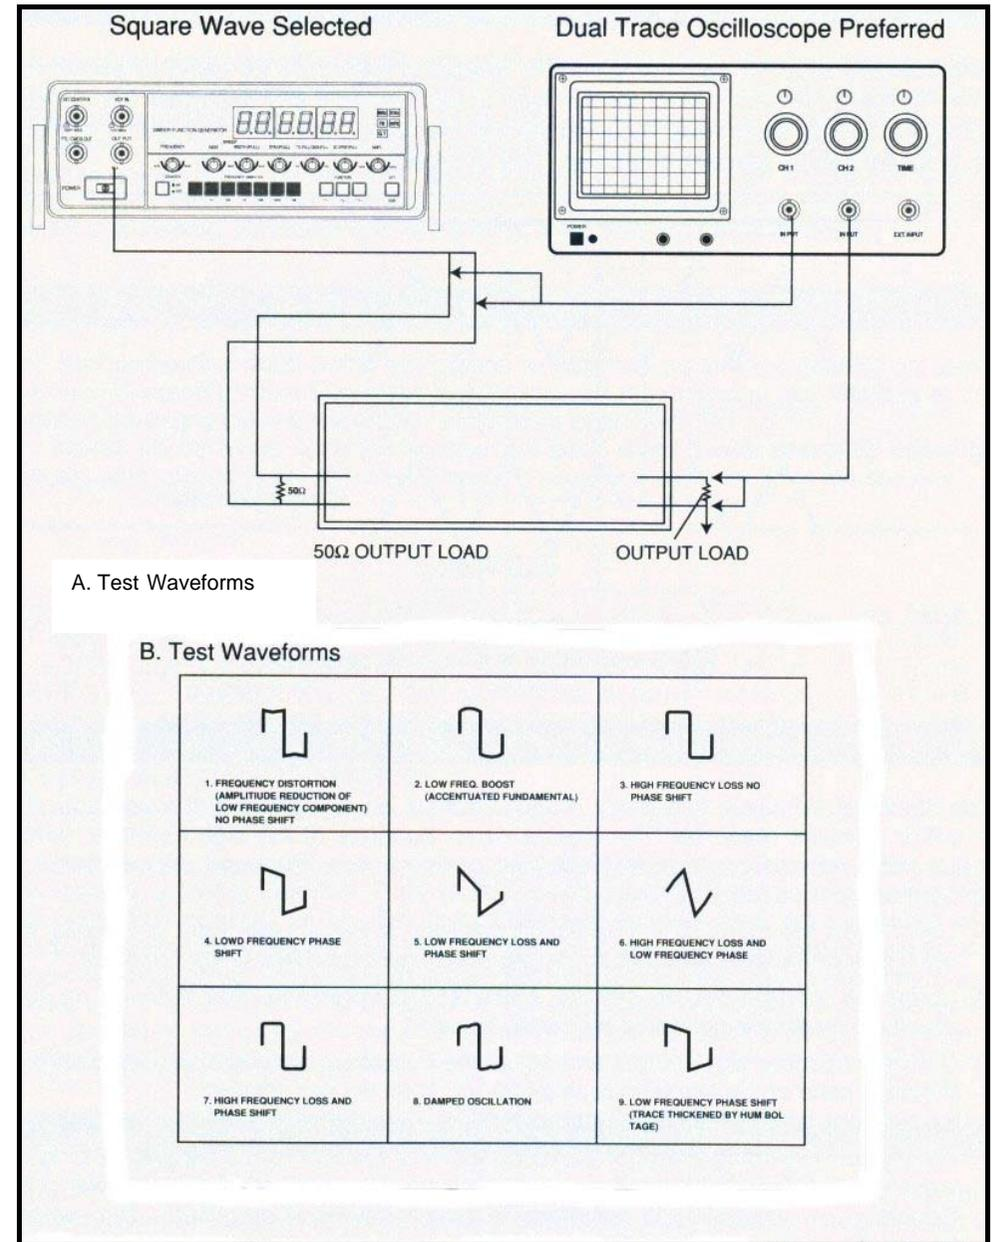

Fig. 7-2: Amplifier performance evaluation using square waves
1. Use the test set-up of Fig. 7-2. The 50 Ω termination at the amplifier input is essential when using square waves to eliminate the ringing effects generated by the fast rise times.